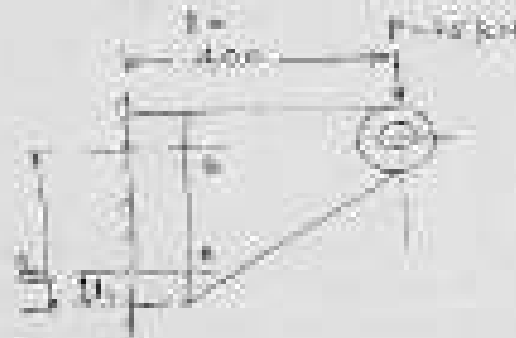

Fig. 2a
- a) A cast iron bracket fixed to the steel structure is shown in figure 2a. It supports load  $P$  of 25 kN. There are two bolts at A and two bolts at B. The distances are as follows:  $l_1 = 50 \text{ mm}$ ,  $l_2 = 200 \text{ mm}$ ,  $l = 400 \text{ mm}$ . Determine the size of bolts, if maximum permissible tensile stress in the bolts is  $50 \text{ N/mm}^2$ . [8]